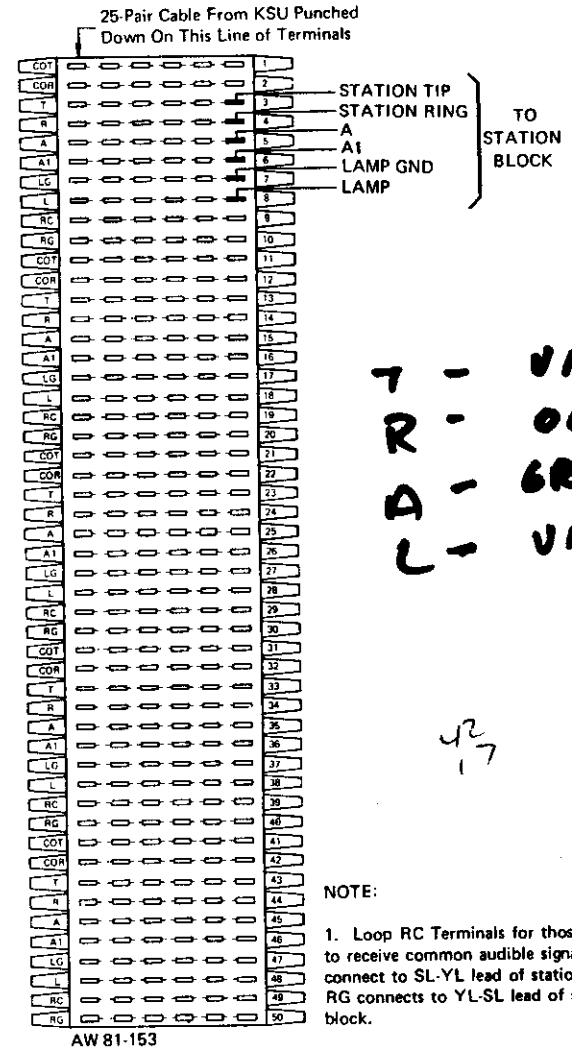

Figure 5: Station Cross-Connections
4.12 Cross-connect from each station block to the second 25-pair block as shown in Figure 5. Connections are made on the KSU block if the second 25-pair block is not used. Cross-connections to be made are for Tip, Ring, A, A1, Lamp and Lamp Ground.